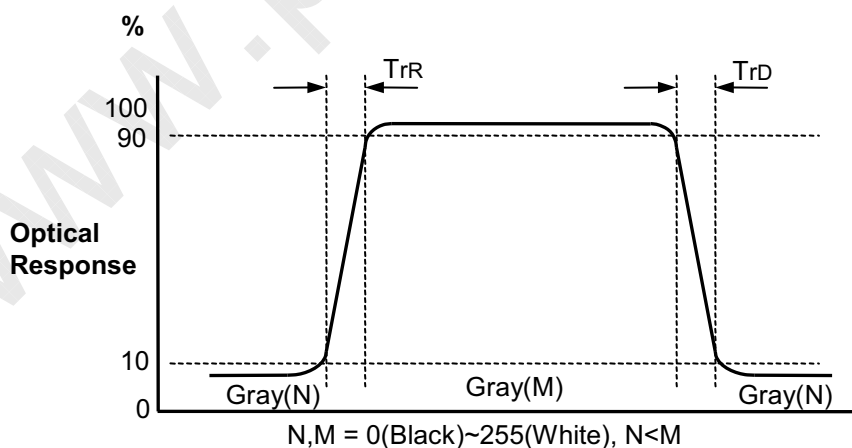

FIG. 3 Response Time
- Response time is the time required for the display to transition from G(N) to G(M) (Rise Time, Tr_R) and from G(M) to G(N) (Decay Time, Tr_D). For additional information see the FIG. 3. ($N < M$)